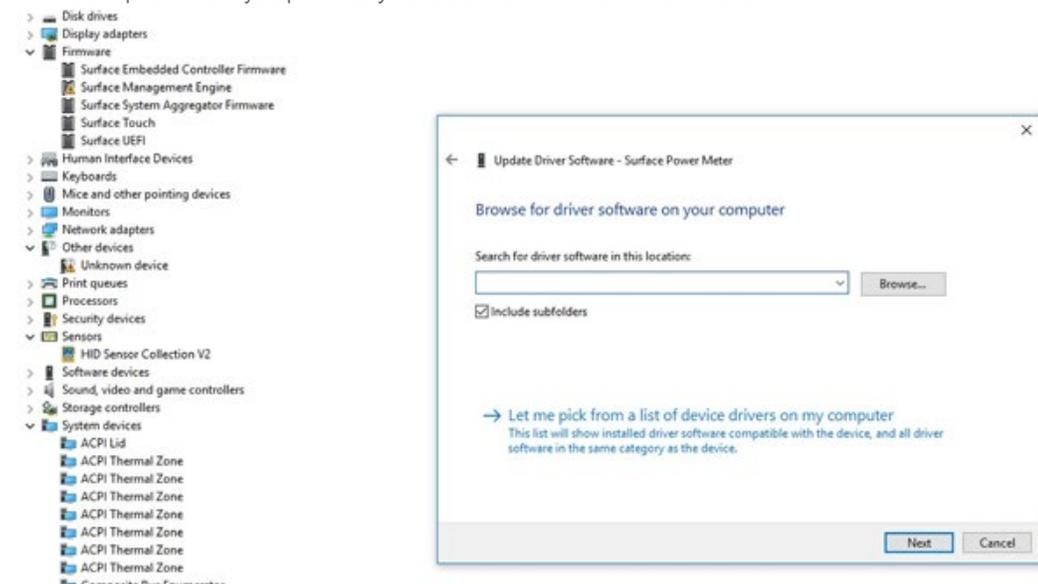

Figure 7. Provide path for the driver software.
- d. The Update Driver Software window prompts for a location path for the driver file, as shown in **Figure 7**. Provide the path where you previously saved the driver file and click “Next.”